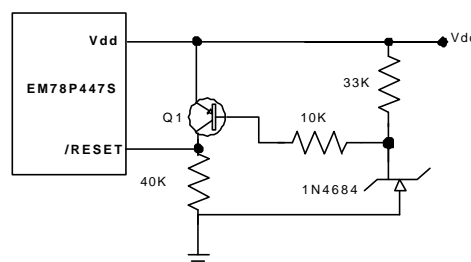
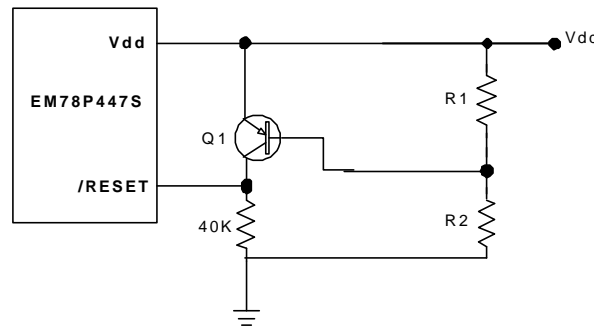

Fig. 16 The Residue Voltage Protection Circuit 1
Fig. 17 The Residue Voltage Protection Circuit 2
The circuit shown in Fig.16 implements an external RC to produce the reset pulse. The pulse width (time constant) should be kept long enough for Vdd to reached minimum operation voltage. This circuit is used when the power supply has slow rise time. Because the current leakage from the /RESET pin is about $\pm 5\mu\text{A}$, it is recommended that R should not be greater than 40 K. In this way, the /RESET pin voltage is held below 0.2V. The diode (D) acts as a short circuit at the moment of power down. The capacitor C will discharge rapidly and fully. Rin, the current-limited resistor, will prevent high current or ESD (electrostatic discharge) from flowing to pin /RESET.
When battery is replaced, device power (Vdd) is taken off but residue-voltage remains. The residue-voltage may trips below Vdd minimum, but not to zero. This condition may cause a poor power on reset. Fig.16 and Fig.17 show how to build the residue-voltage protection circuit.